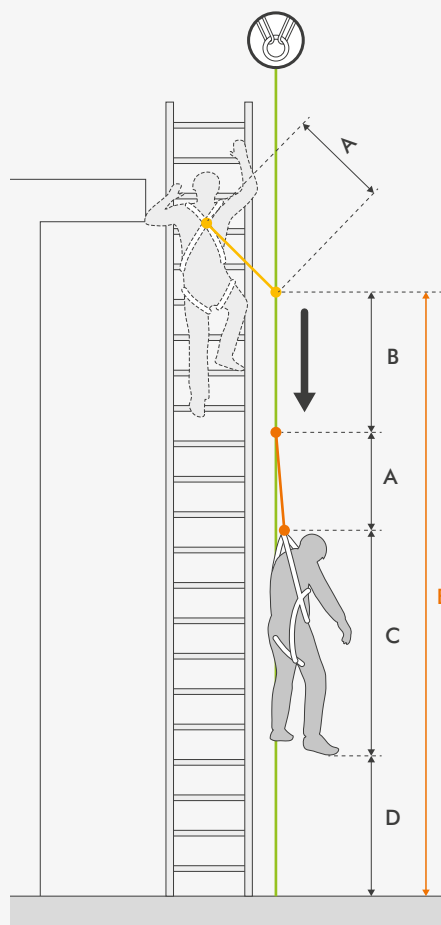

Fig. 2
- Fig. 2 / Guided fall arrester with extension lanyard EN 353**